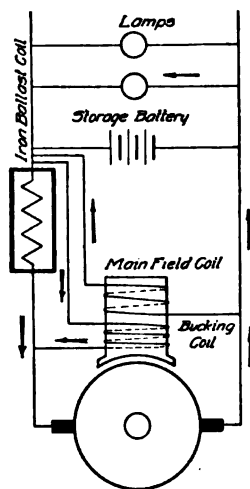

Fig. 148. Connections Bosch-Rushmore Generator
**Bosch-Rushmore Type.** In the Bosch-Rushmore generator, inherent regulation is obtained with a bucking-coil winding used in conjunction with a so-called "ballast" coil, which automatically cuts the bucking coil in or out of the circuit according to its resistance, Fig. 148. Advantage is taken of the fact that the electrical resistance of iron increases enormously after its temperature rises beyond a certain point. This ballast coil accordingly consists of a few turns of fine iron wire on a fluted porcelain rod. The bucking coil, the effect of which is to reduce the field excitation of the dynamo, is connected as a shunt across the iron ballast coil, as shown in Fig. 148. Its resistance is considerably greater than that of the ballast coil when the latter is cold or only warm, so that at low engine speeds practically all of the current generated passes directly to the battery and lamps and the generator acts as a single-shunt dynamo. However, the resistance of the iron wire increases at a constant rate up to about 10 amperes, after which it mounts very suddenly, preventing the passage of any excess current, which, accordingly, must go through the bucking coil. Thus the latter only comes into action at high speeds, so that the output of the dynamo may be adjusted to any value within its capacity simply by employing an iron wire of suitable diameter in the ballast coil.